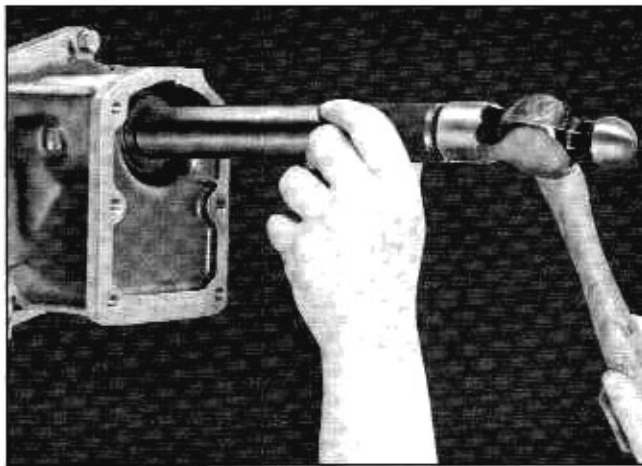

Fig. 7-21 Installing New Seal
4. Install new bearing seal with suitable tool (Fig. 7-21).